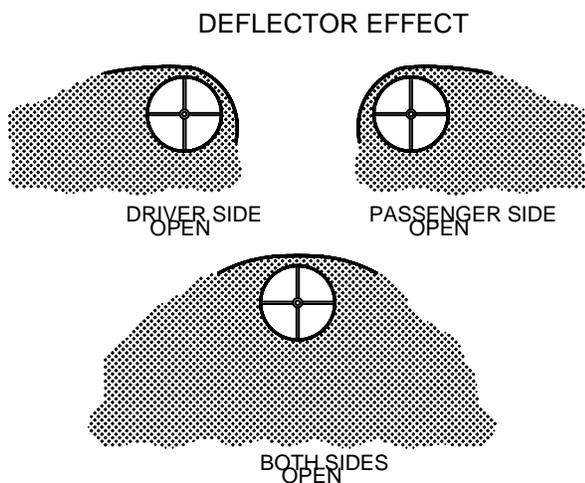

Figure 19. Deflector Adjustment G10287
2. The adjustable plastic deflector can be used to adjust the spread pattern as shown, refer to Figure 19.